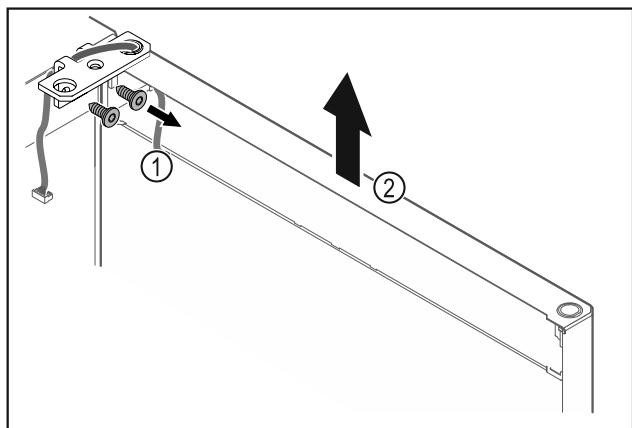

Fig. 26
- ▶ Unscrew the hinge Fig. 26 (1).
- ▶ Lift the door with the hinge straight up by Fig. 26 (2) roughly 200 mm and take it off.